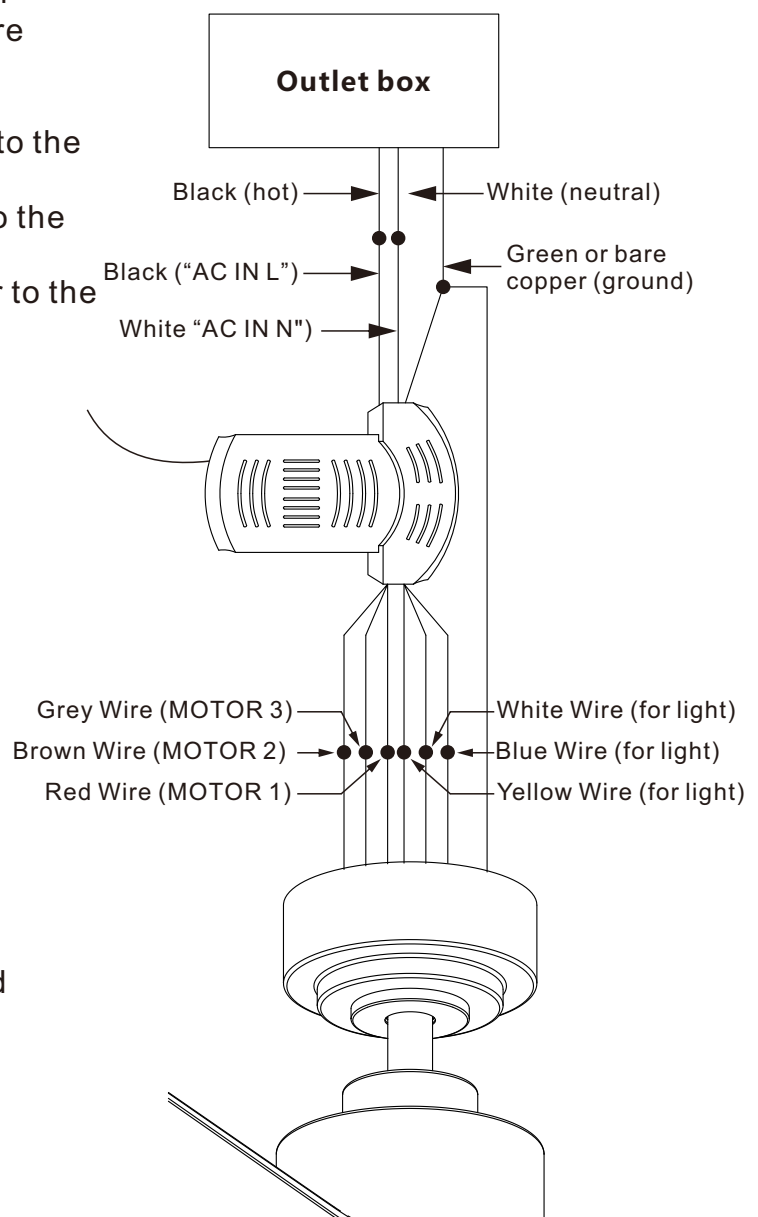

Figure 16
Motor to Receiver Electrical Connections:(Fig.16)
Step 3. (Fig.16) **Receiver to House Supply Wires Electrical Connections:** Connect the Black (hot) wire from the ceiling to the black wire marked "AC in L" from the receiver.
Step 4. (Fig.16) If your outlet box has a ground wire (green or bare copper) connect it to the fan ground wires and the receiver ground wire; otherwise connect the hanging bracket ground wire to the fan and the receiver ground wire. Secure the wire connection with a plastic nut provided. After connecting the wires, spread them apart so that the green and white wires are on one side of the outlet box and other wires are on the other side. Carefully tuck the wire connections up into the outlet box.